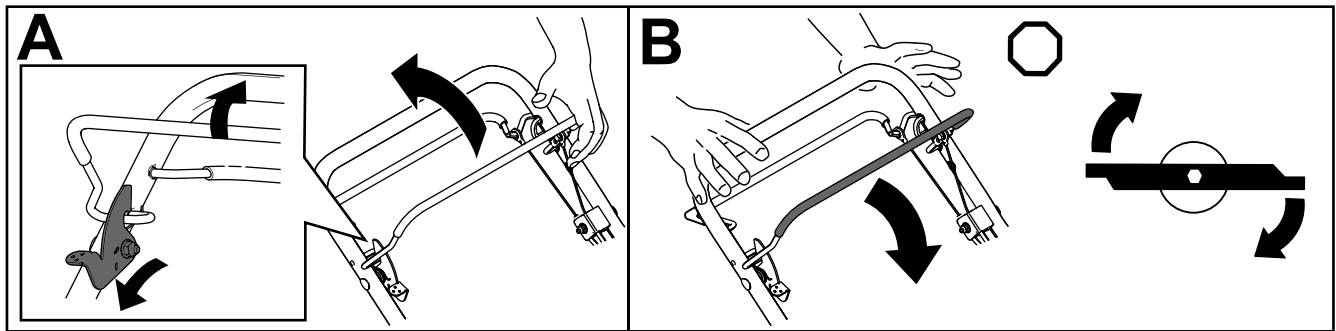

Figure 18
1. Push and hold the blade-control lock lever forward to release the blade-control bail (A of Figure 18).
2. Pull the blade-control bail to the handle and release the blade-control-lock lever; the blade should engage (A of Figure 18).
3. Release the blade-control bail to disengage the blade (B of Figure 18). The blade-control-lock lever resets to lock the blade-control bail.